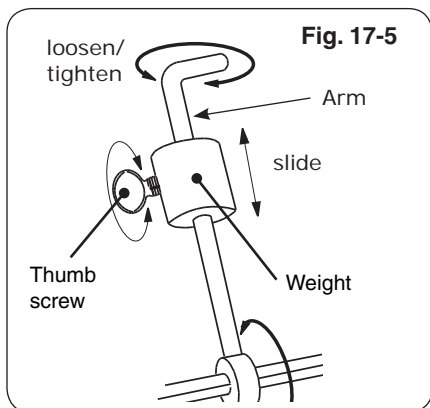

Fig. 17-5
9. Slide the counterbalance weight up or down the arm until the rod rotates most evenly then tighten thumb screw (Fig. 17-5 and Fig. 17-6).